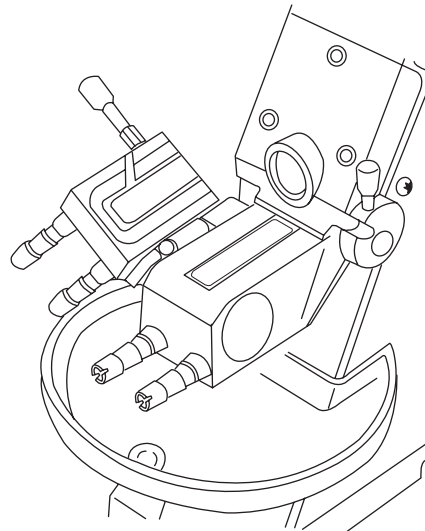

Fig. 9-6
- ① Turn the prism open-shut handle to open the secondary prism (Fig. 9-6).